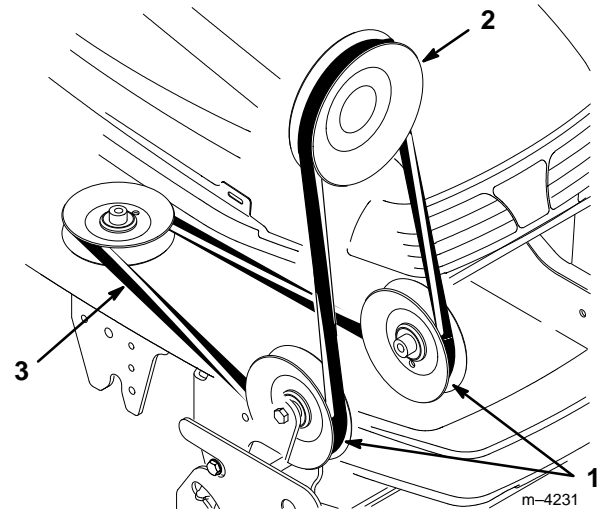

Figure 10
5. Position the end of the belt into the groove of the PTO pulley (Fig. 10), making sure it is also under the pulleys in the pulley box.